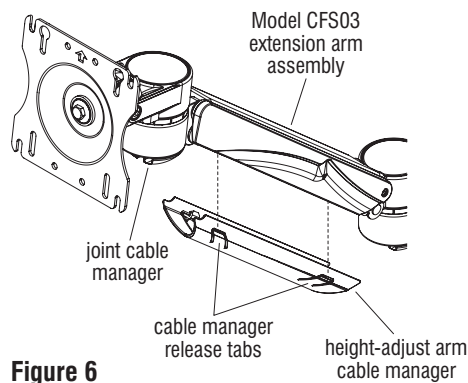

Figure 6
1. To remove the height-adjust arm cable manager, pinch the two release tabs on the cable manager located on the underside of the Model CFS03 extension arm assembly (Figure 6).